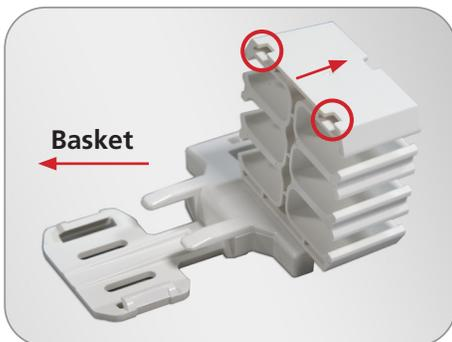

Figure 21 – Tapered End Pointing Away from Basket
- A. **For Basket to Tray** – Insert Housing onto Basket Tab with the tapered end pointing away from the Basket as shown (Figure 21). The two indentations (circled) pointing toward basket allows retention from basket to tray.